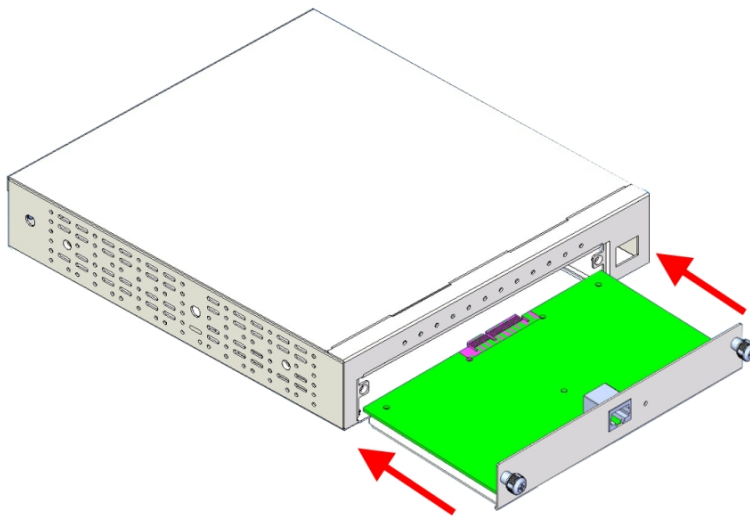

Fig. 9: Inserting the expansion card
- (6) Finally, insert the tray into the device once again using the appropriate guides. See Fig. 9 on page 10.